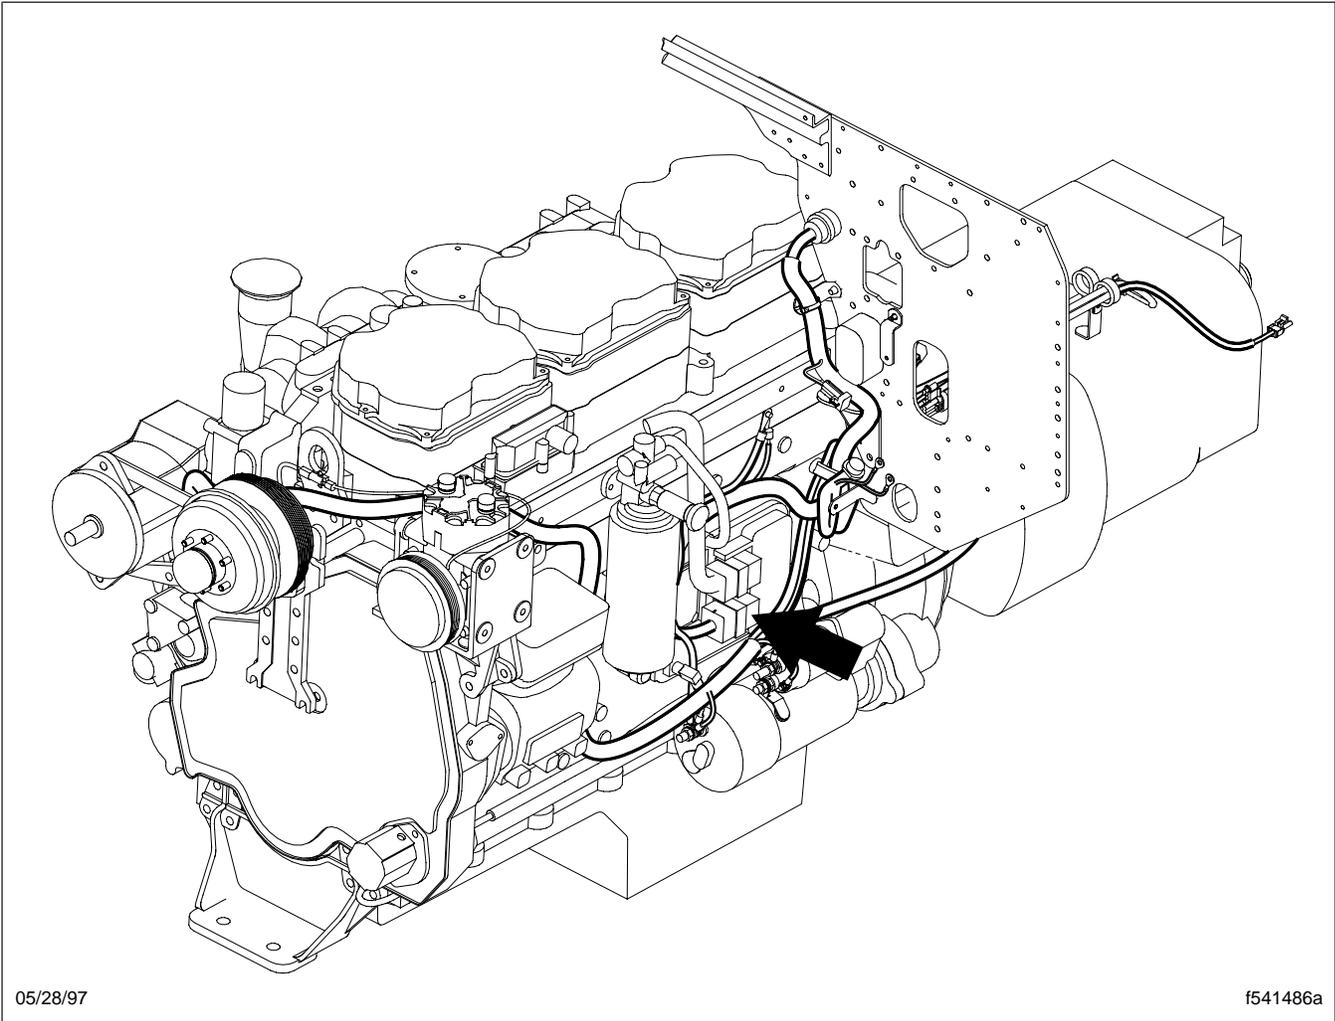

Fig. 2, Caterpillar C-10 and C-12 Engine ECU Location
- For Caterpillar C-10 and C-12 engines, see Fig. 2.